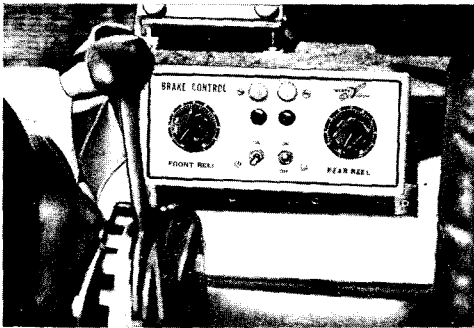

Fig. 7—Brake Control for Reel Carrier
2.10 The spindles for the rear reel loader-carrier and the strand reel carrier are equipped with electric brakes for controlling tension. The brake tension controls are located in the truck cab. (See Fig. 7.)